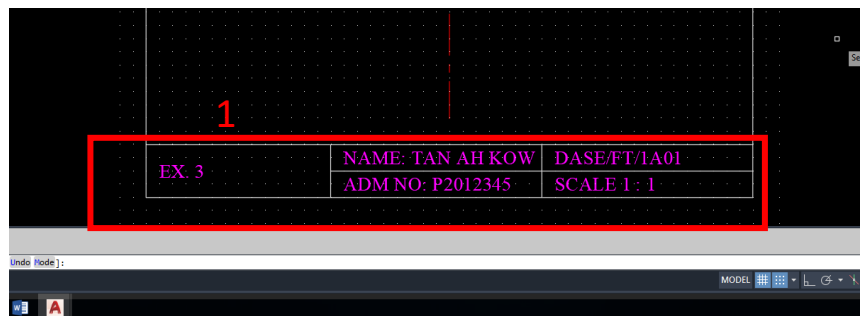

Fig 17
- xii. See Fig 17 below **(1)**